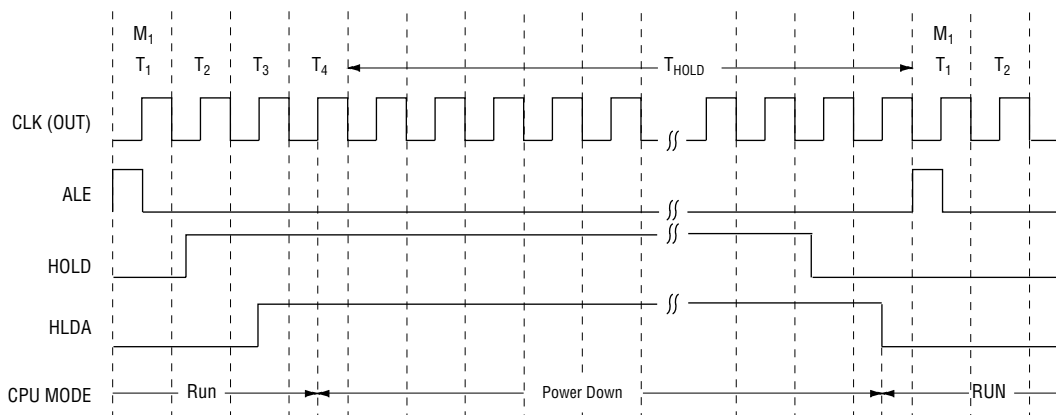

Figure 8 Started and Released by HOLD
(2) Start by means of HOLD pin (See Figure 8.)